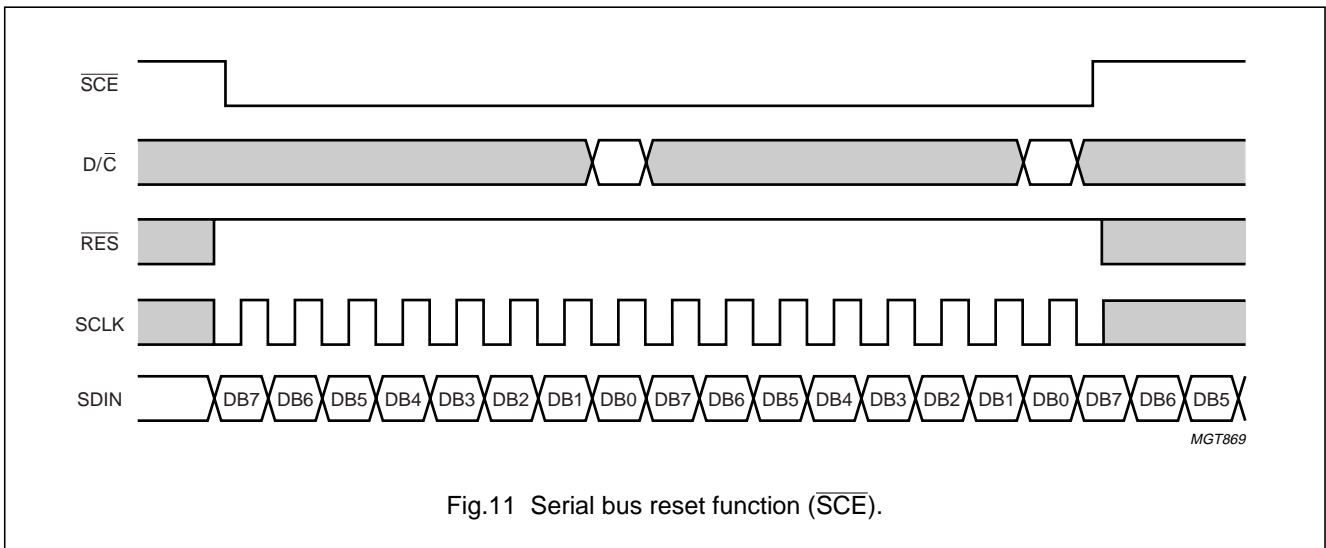

Fig.11 Serial bus reset function (\overline{SCE}).
- When \overline{SCE} is HIGH, SCLK clock signals are ignored. During the HIGH time of \overline{SCE} , the serial interface is initialized (see Fig.11)
- If \overline{SCE} stays LOW after the last bit of a command/data byte, the serial interface expects bit 7 of the next byte at the next positive edge of SCLK (see Fig.11)
- A reset pulse with \overline{RES} interrupts the transmission. No data are written into the RAM. The registers are cleared. If \overline{SCE} is LOW after the positive edge of \overline{RES} , the serial interface is ready to receive bit 7 of a command/data byte (see Fig.11).